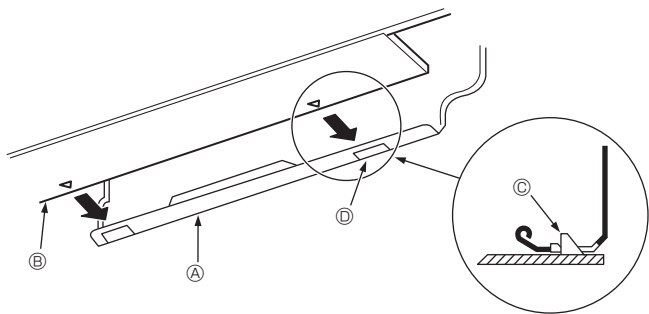

Fig. 3-15
3. While inserting the refrigerant piping and drain hose into the wall penetration hole (penetration sleeve), hang the top of the indoor unit to the mount board ①.
5. Fasten by pushing the bottom part of the indoor unit onto the mount board ①. (Fig. 3-15)
- \* Check that the knobs on the bottom of the indoor unit are securely hooked into the mount board ①.
① Mount board
② Indoor unit
③ Hook
④ square hole